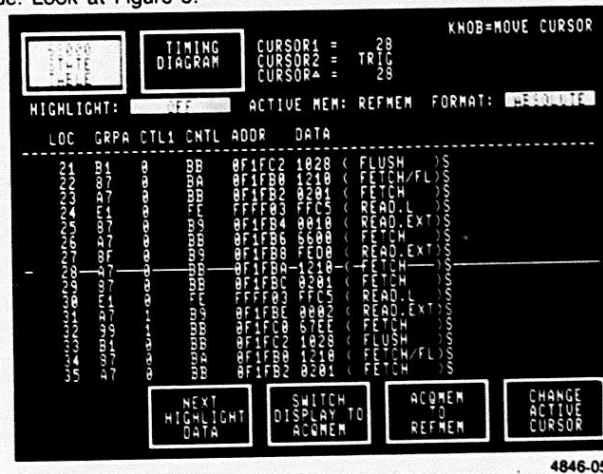

Figure 5. ABSOLUTE format adds cycle type information.
**ABSOLUTE.** This format is like the STATE format, but is enhanced by the addition of cycle type information. A FLUSH indicates cycles which were probably flushed (and a FETCH/FL indicates that the previous FETCH cycle was probably flushed). The Absolute format also adds an S/U character after the cycle type to note 68000 Supervisor or User mode. Look at Figure 5.